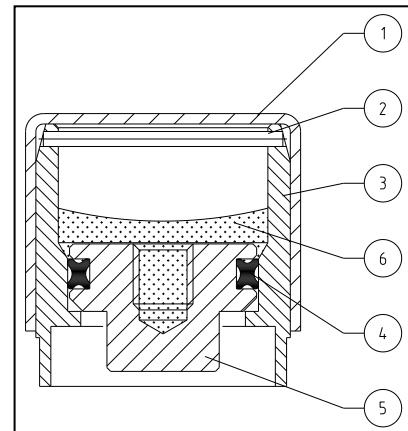

figure 3; *Pump valve*
Position the pump valve house (Fig 3, pos.3) in the opening in the jacket. Check whether the opening is properly covered by the pump valve house. Now weld the pump valve house fixed in the jacket.
Prior to the next steps the pump-out tool needs to be prepared. You need a pump-out tool and the remaining parts of the pump valve. Lightly grease the Quad-ring (Fig.3, pos.4) with vacuum grease (For example: Dow Corning, type: High Vacuum Grease). Then fit the plug, with Quad-ring on the spindle of the pump-out tool (M8 thread). Screw the plug lightly onto the spindle. Do not use any tools. Remove the spindle from the pump-out tool in the top position, and turn the spindle in such a way that it locks in the highest lock. Check whether the outside of the pump valve is actually clean. Store the valve pump-out tool during step 11 and 12 in a clean and dry environment.
$< 1 \times 10^{-3}$ mbar. Once this vacuum level has been reached, the pump valve can be closed. Turn the spindle of the pump-out tool out of the height locking, and slowly push the spindle downwards. When the plug comes into contact with the house of the pump valve, you must push the plug in the pump valve house using a certain amount of force, until you feel that the plug touches an end stop. Also refer to figure 3. Now break the vacuum at the vacuum pump side.
Turn the spindle of the pump-out tool out of the height locking, and slowly push the spindle downwards. When the plug comes into contact with the house of the pump valve, you must push the plug in the pump valve house using a certain amount of force, until you feel that the plug touches an end stop. Also refer to figure 3. Now break the vacuum at the vacuum pump side.
Finally the pump valve must be further finished. Apply vacuum grease to the top of the plug which is visible in the pump valve house. In particular the transition zone between the plug and the pump valve house must be properly greased. The grease is clearly shown in figure 3, pos 6. Insert the supplied small shaft ø 2 mm (Fig.3, pos.2) through the holes at the top of the pump valve house. Finally place the plastic protection cover (Fig.3, pos.1) over the pump valve. Now the welded coupling is completely fitted.